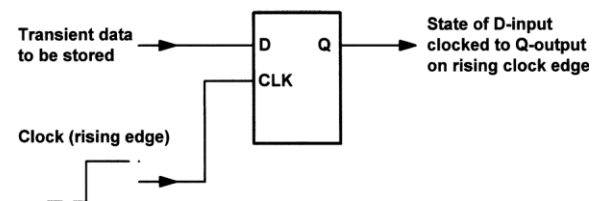
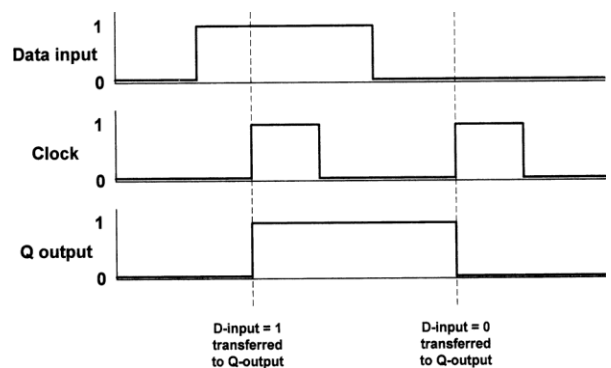

Figure 10.20 D-type bistable operation
Figure 10.21 Timing diagram for the D-type bistable
- Operation is thus said to be synchronous. Additional subsidiary inputs (which are invariably active low) are provided which can be used to directly set or reset the bistable. These are usually called PRESET (PR) and CLEAR (CLR).
- D-type bistables are used both as latches (a simple form of memory) and as binary dividers. The simple circuit arrangement in Fig. 10.20 together with the timing diagram shown in Fig. 10.21 illustrate the operation of D-type bistables.